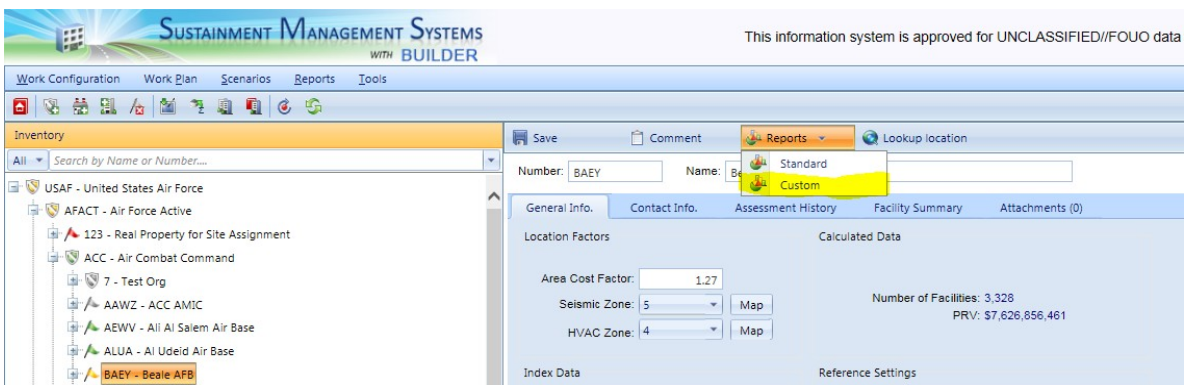

Figure 1: Location of Custom Reports in BUILDER 3.3.12. (This example shows the Site level Custom Reports being selected.)
1. Figure 1: Location of Custom Reports in BUILDER 3.3.12
Each Custom Report is developed for the specific hierarchy level in BUILDER the report will be run from. Although the same named report may be available at several hierarchy levels in a BUILDER inventory, the underlying data requirements are different, so each level is in technically a different report. In addition, some reports available at a specific level may not make sense at another hierarchy level. For example an ORGANIZATION level report may not make sense at a BUILDING level and may not therefore be available at that level. The Custom Reports (see Figure 1) menus will differ depending upon what hierarchy level in BUILDER a report is launched. Reports can be launched in BUILDER from the ORGANIZATION (🏠), SITE (📍), COMPLEX (🏢), and BUILDING (🏠) levels.